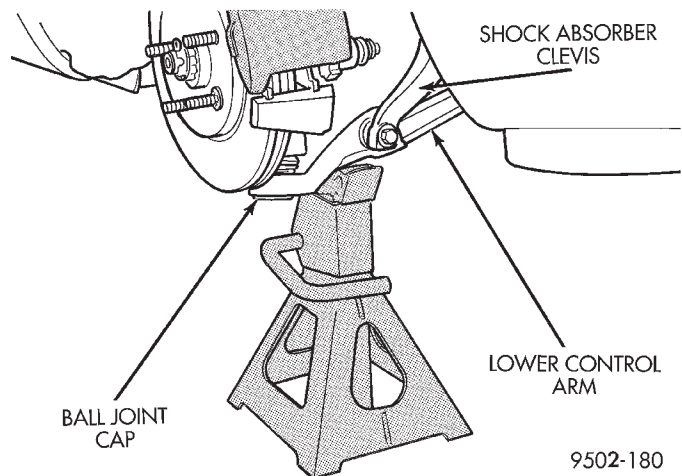

Fig. 38 Supporting Lower Control Arm With Jack Stand
CAUTION: When supporting lower control arm with jack stand, do not position jack stand under the ball joint cap on the lower control arm. Position in area of lower control arm shown in (Fig. 38).
(10) Lower vehicle to the ground with a jack stand positioned under the lower control arm (Fig. 38). Continue to lower vehicle so the total weight of the vehicle is supported by the jack stand and lower control arm.